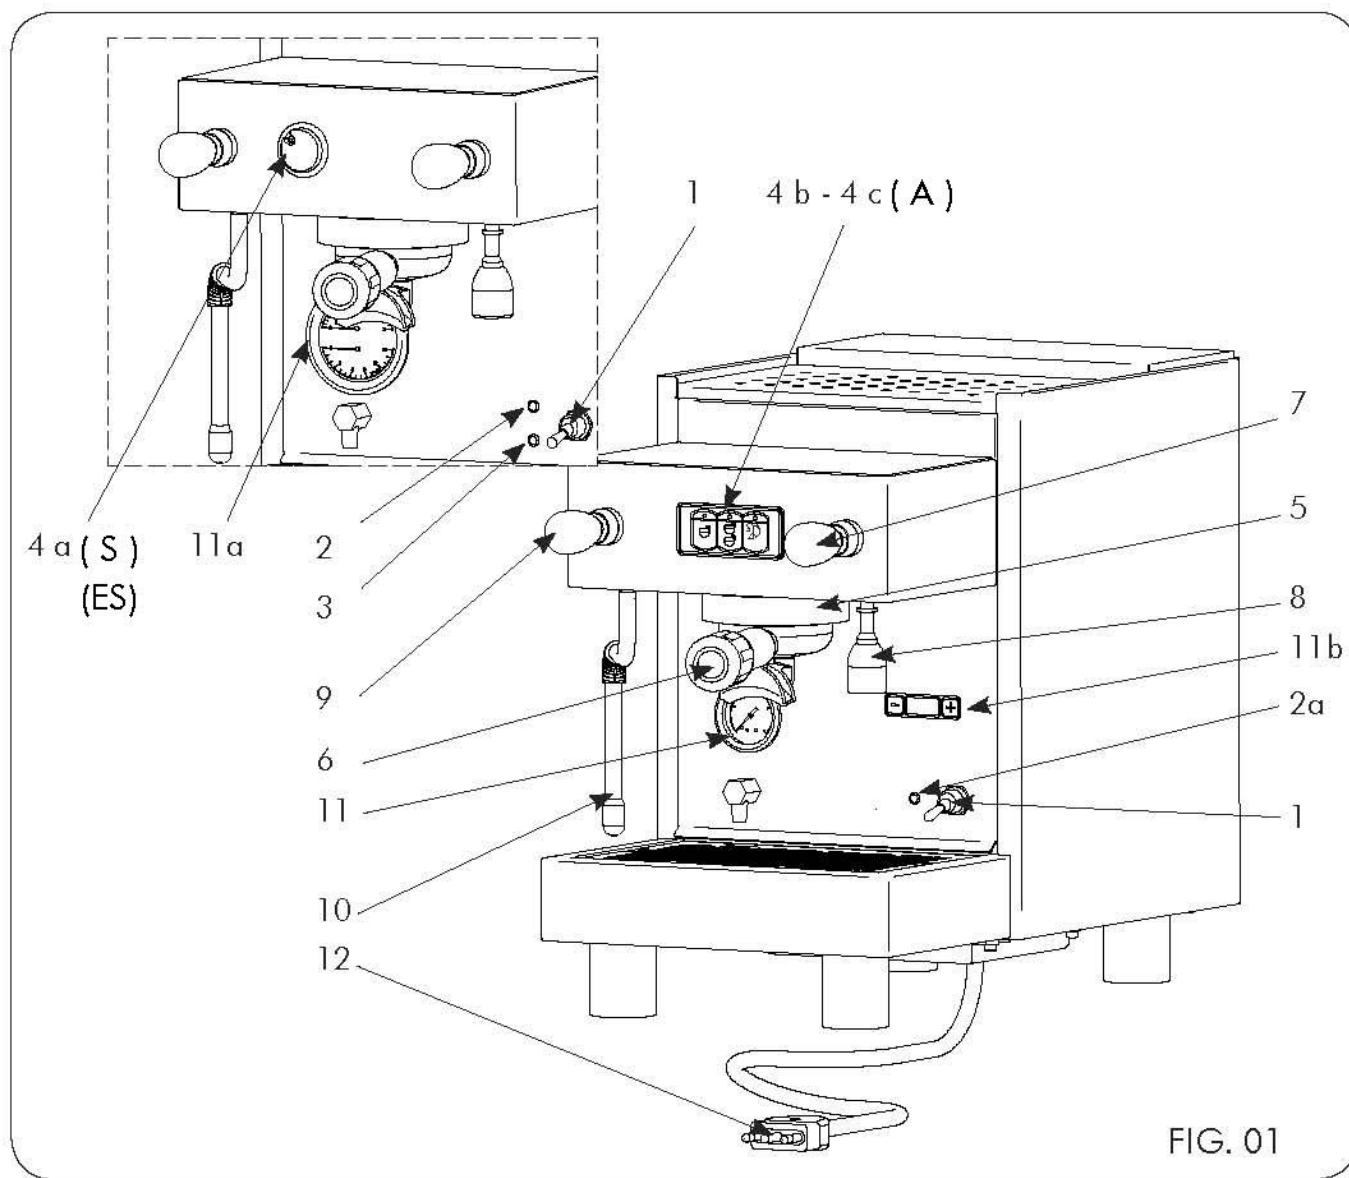

FIG. 01
3.2 Description of controls (Fig. 01 - Fig. 10)
Turn the main switch (Fig. 01; pos. 1) to position 1. Water is automatically loaded into the boiler.
A safety device will interrupt the pump after 120 seconds if the maximum water level is not reached in the boiler. The machine will signal this alarm by turning off the yellow light (Fig. 01; pos. 3).
The machine will signal this alarm by turning off the PID (Fig. 01; pos. 11b) and turning on the keypad LEDs.
In order for the machine to reach the right temperature, with, "S" version the pressure indicated on the boiler gauge (Fig. 01; pos. 11) between
1 and 1.2 bar (0.1 - 0.12 MPa). all PID version the temperature indicated on the PID (Fig. 01; pos. 11B) between 194 and 203 °F (temperature suggested by the factory) open the steam tap (Fig. 01; pos. 9) and discharge the steam 2 or 3 times into the discharge basin.
The yellow light (Fig. 01; pos. 3), if turned on indicates that the machine is working correctly, if turned off means insufficient water in the tank.
The PID (Fig. 01; pos. 11b), if turned on indicates that the machine is working correctly, if turned off means insufficient water in the tank.
- 1) Remove the filter holder (Fig. 01; pos. 6) from the distribution unit (Fig. 01; pos. 5).